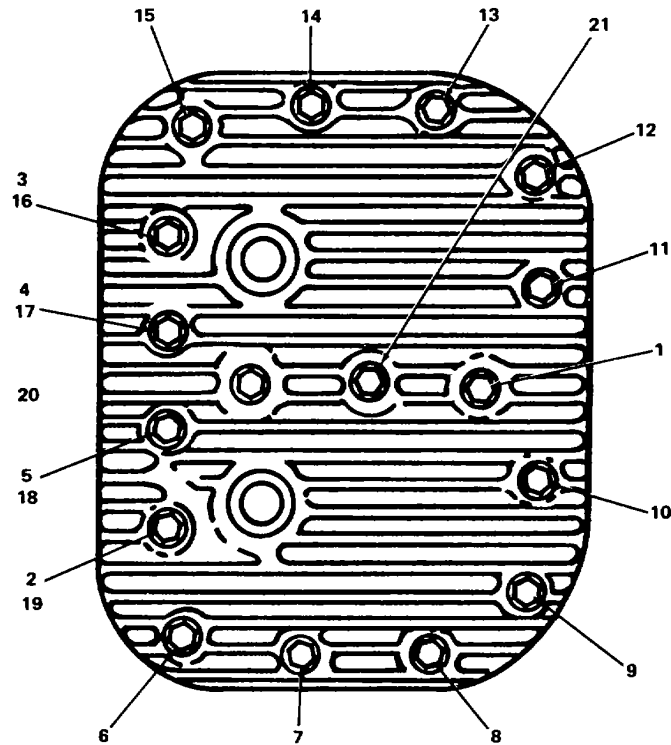

Figure 6-32. Cylinder Head Bolt Tightening Sequence
- (1) Position cylinder head and new cylinder head gasket over right cylinder bank.
- (2) Align cylinder head and gasket with cylinder block and install two 5/16-18" x 13/8" screws, fifteen 5/16-18" x 1-1/4" screws and seventeen 5/16" lock washers.
- (3) Tighten screws to 24 lb-ft torque. Use tightening sequence shown in Figure 6-32.
Long screws are to be installed in positions 20 and 21 in Fig. 6-32.